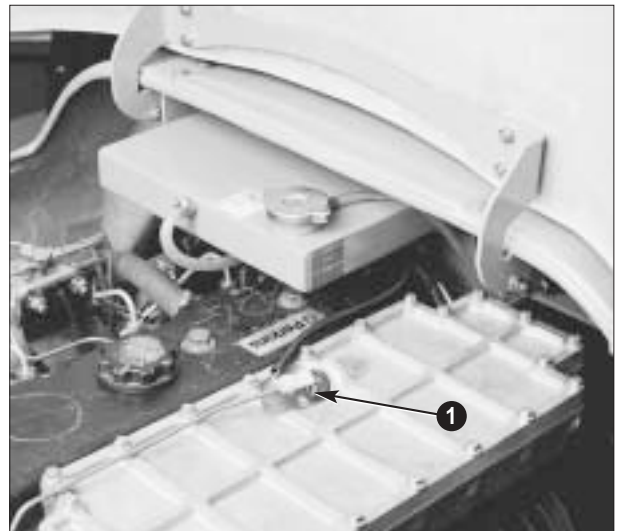

Fig. 58
1. Loosen the pipe to the preheating nozzle 1 fig. 58.